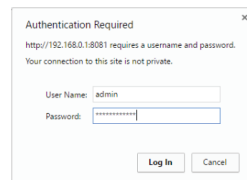

Figure 11: xPicoWiFi Login Dialog Box
6. A dialog box will appear. Type “admin” in lower case in the User Name box and the full MAC/Serial # without dashes (e.g. 0080A3AB01C8) in the Password box. Click on Log In button. See Figure 11.